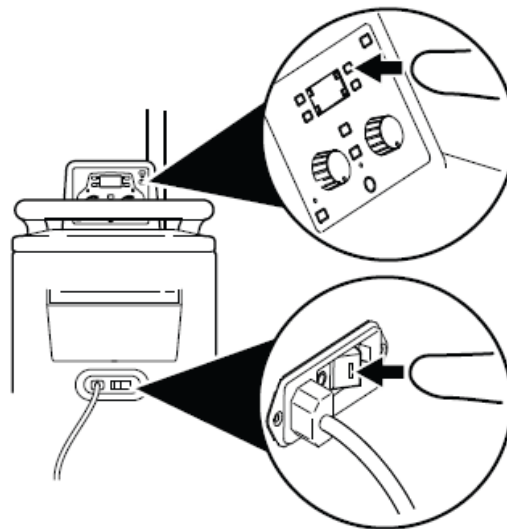

Figure 1: To Access System Setup
3. Push the control panel display button and the power button to on simultaneously (see figure 1).